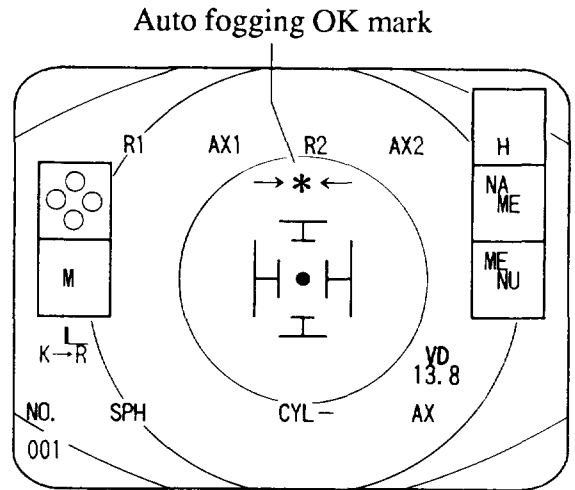

Figure 3-8 Adjust the joystick lever so that the flickering dot becomes as small as possible.
- Flickering spot does not become smaller as Figure 3-8.
- ② Move the joystick lever to position the measuring head so that the patient's eye is displayed on the screen (you may measure either eye first).
- ③ While aligning the flickering dot as described in Step ② above, tilt the joystick lever back and forth until the flickering dot becomes as small as possible (the internal patient target comes slightly toward the plus side from the far point of the patient's eye and the auto fogging OK mark (→*←) will appear) (see Figure 3-8).